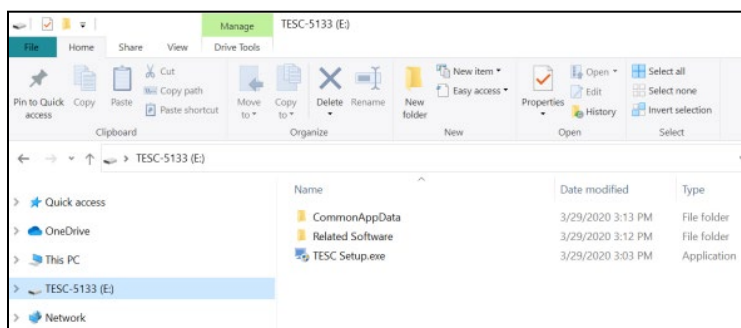

Figure 20: Flash Drive File Menu
1. Insert flash drive into computer. Three items appear in the pop-up window, as shown in Figure 20.